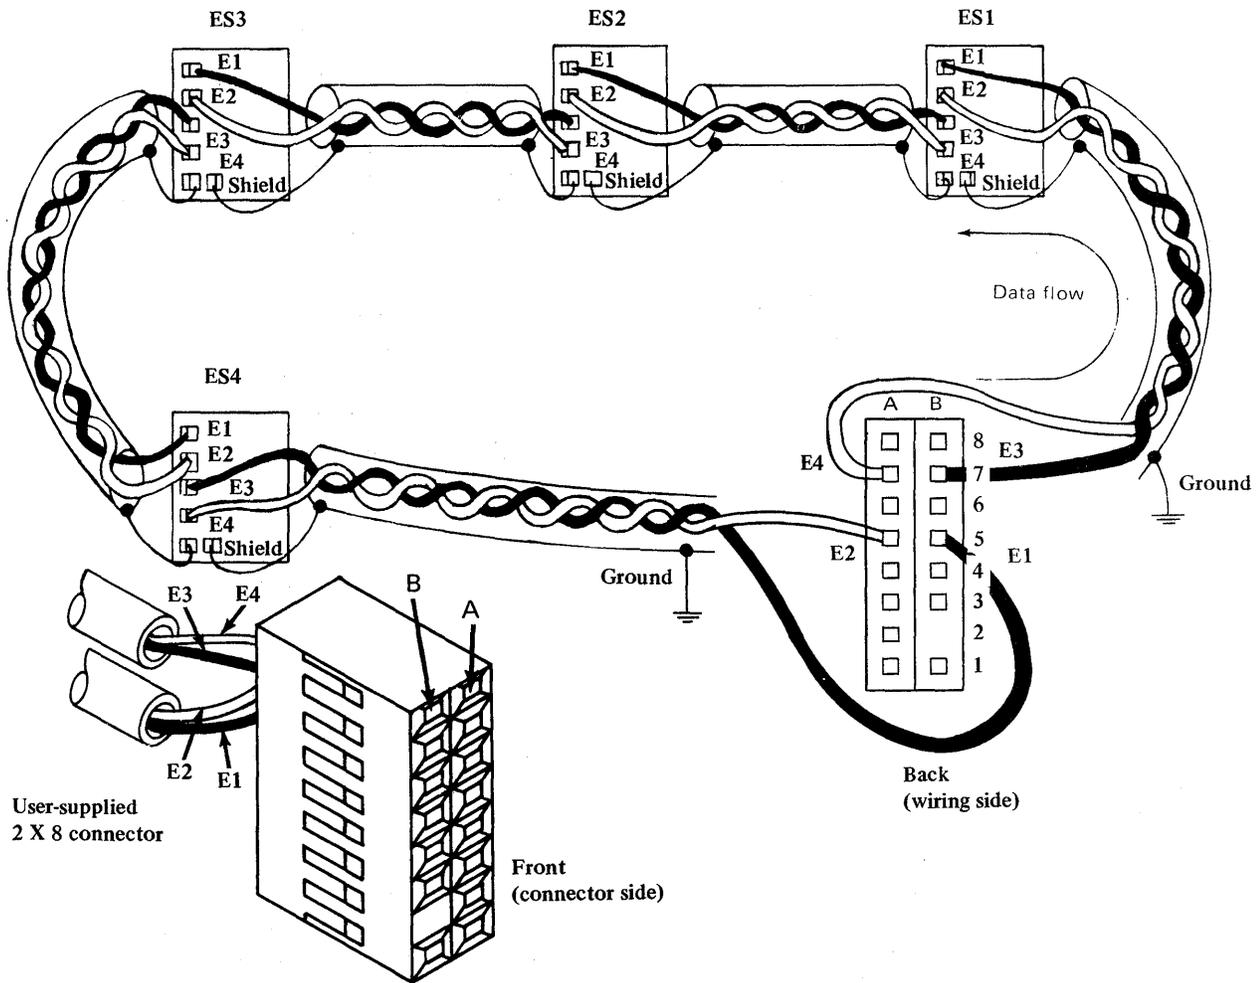

Figure 3-10. Loop cable wiring
When installing the loop cable (refer to Figure 3-10):
*Note:* Refer to Figure 3-10; note that the blue E3 wire at the loop connector connects to station 1 terminal E1, and the white E4 wire at the loop connector connects to station 1 terminal E2. This method of wiring should be used for the entire loop.